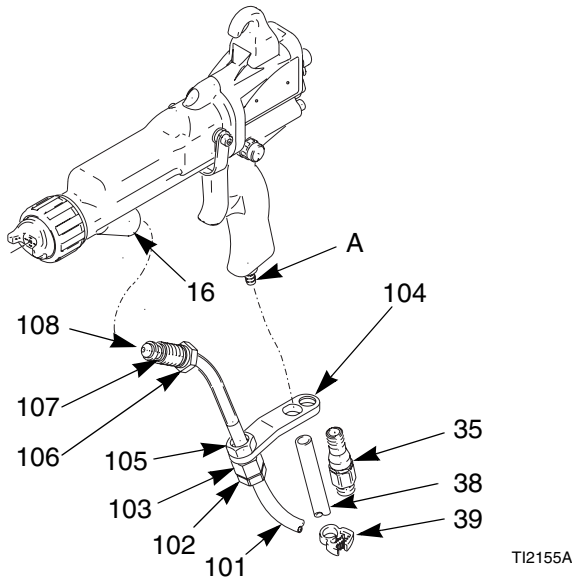
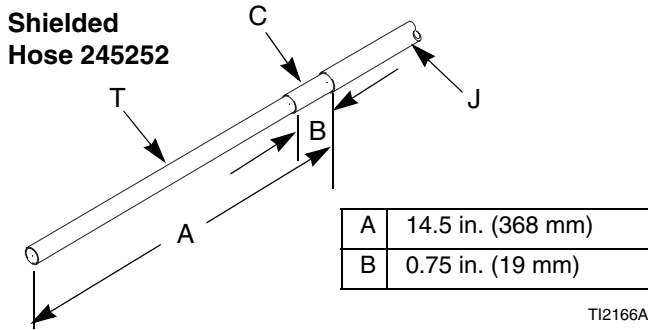
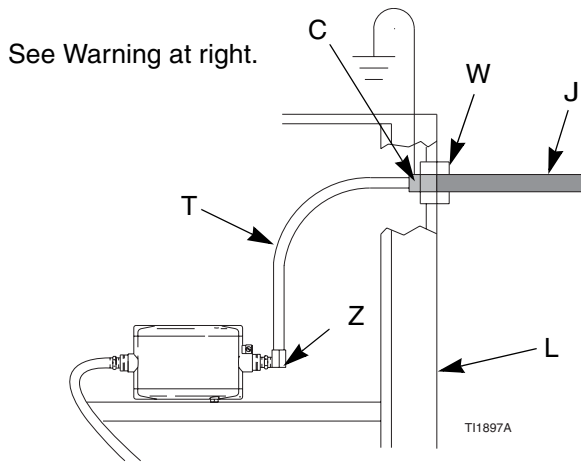

Fig. 3. Connect the Fluid Hose
Fig. 6. Waterborne Hose Dimensions (At Graco WB100 Enclosure)
Fig. 7. Shielded Fluid Hose Connection at Graco WB100
Always use a Graco waterborne fluid hose between the voltage isolation system fluid outlet and the gun fluid inlet. See FIG. 3.. The waterborne fluid hose (101) consists of an inner PTFE tube (T) and an abrasion-resistant outer jacket (J). Shielded hose 245252 also has a conductive layer (C). The conductive layer is connected to ground at the gun fitting bracket (104).
1. Remove the gun air inlet fitting (35). See FIG. 3..
3. Generously apply dielectric grease (40) to the o-ring (107) and the threads of the fitting (106). Pull the fitting back 1-1/2 in. (38 mm) and apply grease to the exposed PTFE hose to fill the area between the hose and the fitting. Make sure the barrel inlet is clean and dry, then screw the fitting into the fluid inlet of the gun barrel (16). See FIG. 3..
4. Loosen the strain relief nut (102) so the bracket can move freely on the hose.
5. Align the bracket (104) holes with the air inlet and exhaust outlet. Secure with the air inlet fitting (35). Tighten the strain relief nut (102) to secure the hose.
6. Check that the nut (105) is tightened securely to the ferrule housing (103).
7. Press the exhaust tube (38) onto the barbed adapter (A). Secure with the clamp (39).
- a. *Graco WB100 Enclosure*: Slide hose through the strain relief fitting (W). Ensure conductive layer (C) has passed through fitting. Tighten to 55 in-lb (6.2 N•m). Pull back on hose to check it is secure. Comply with the requirements in **Warning** at right. See FIG. 6. and FIG. 7..